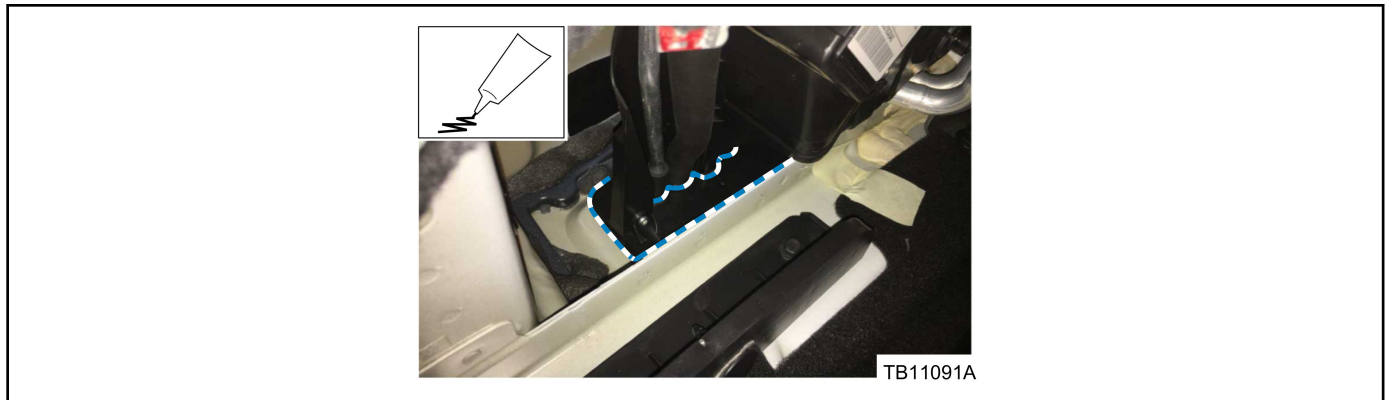

Figure 23 - Article 17-0044
- b. From inside the vehicle, remove the driver side load space trim panel to reveal the rear A/C evaporator lines. Refer to WSM, Section 501-05. Apply Motorcraft® Seam Sealer between the lines and in any gaps to thoroughly seal the pass through. (Figure 23)